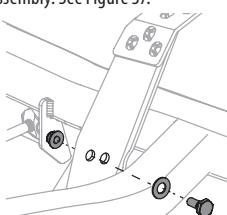

Figure 37
2. Remove the hex bolt, washer and hex nut near the center of the pedal assembly. See Figure 37.
- Re-install the hardware previously removed and torque the nut to 28-35 ft-lbs (38-47 N-m). See Figure 37.